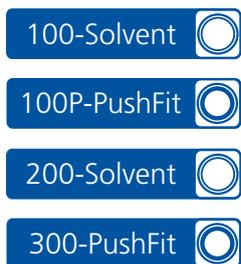

Fig.3d Assembling/applying pressure
Step 4 – Assemble immediately, applying firm, even pressure until collar is correctly positioned (Fig.3d)